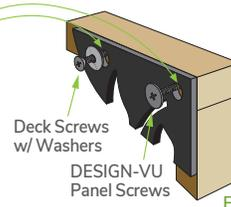

Fig. 24
3. **IMPORTANT:** Drive screws at top (not in center) of the drill holes to allow for panel expansion (Fig. 24).